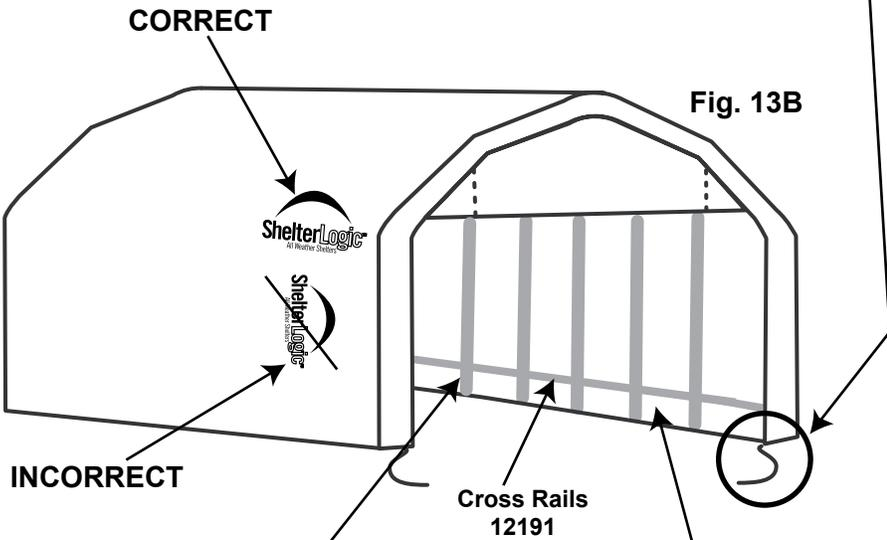

Fig. 13A
Pull the cover over the frame so the webbing is at the front and rear of the frame and the internal pipe pocket runs along the bottom of the frame. Use the (4) ratchets as shown in Fig. 13A. Adjust the cover so there is equal overhand on the front and rear. With the webbing and ratchets, pull the cover snug but not tight.